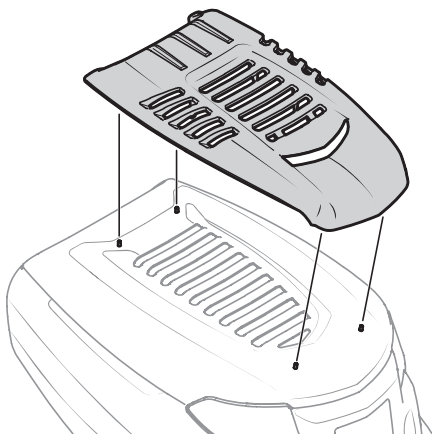

Figure 5
3. Snap the hood topper into place using the hood as your guide (Figure 5).